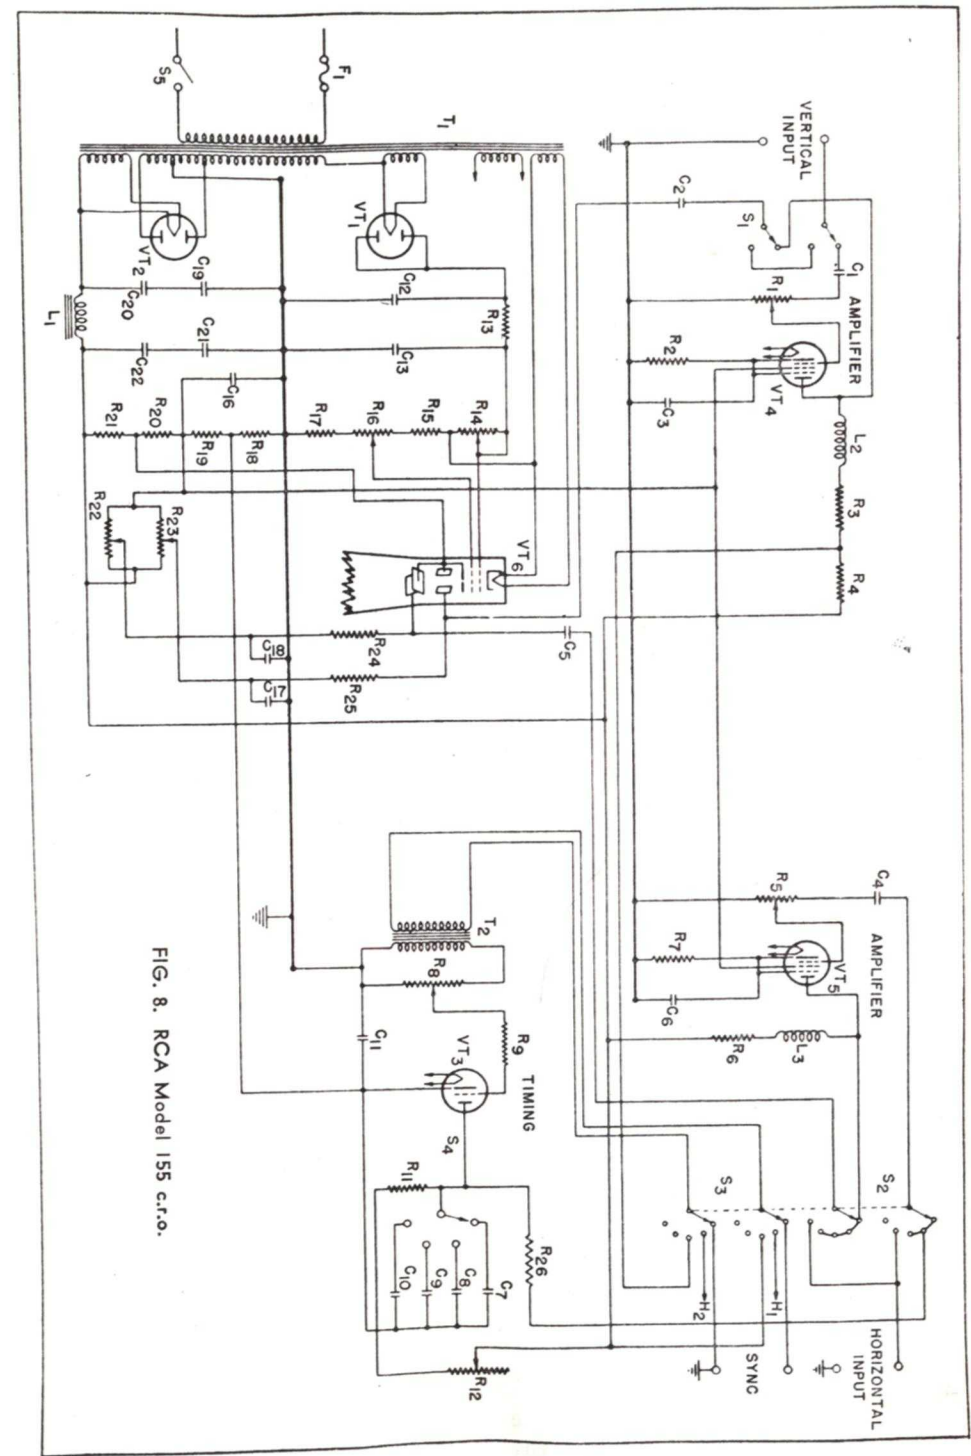

FIG. 8. RCA Model 155 c.r.o.
Fig. 8 is the wiring diagram and Fig. 9 shows the controls and general appearance of the RCA 155, chosen as an example of a typical service instrument. The instrument has in it a cathode ray tube, a high-voltage power supply, amplifiers for the horizontal
Power Supply. There are two complete power supplies in Fig. 8. The section using rectifier VT_2 is the low voltage supply. It is similar to the power pack in a large receiver, furnishing about 400 volts for the operation of the amplifiers and sweep circuit. As this is a rather high d.c. voltage, the filter condensers are in series, to increase the voltage rating. Thus, condensers C_{19} and C_{20} together give half the capacity and twice the voltage rating of a single condenser.
Sweep Generator. The sweep generator is marked "timing" in Fig. 8 and uses the gas discharge tube VT_3 and a selector switch S_4 , which connects the proper condenser into the circuit for the frequency range desired. The condensers C_7 to C_{10} cover the range 15 to 22,000 cycles in four overlapping ranges. The chosen condenser is charged through R_{11} and R_{12} , the latter being adjustable to give a "fine" frequency control.
Turn up the *HORIZONTAL GAIN* control (R_5 in Fig. 8) and the spot will turn into a faint horizontal line. Increase the intensity setting and the horizontal line will become brighter. When the spot begins to move, fewer electrons strike any given point on the screen in a given time, and brightness drops. It is safe to increase the number of electrons in the beam by adjusting the intensity control, since the spot does not stay in one position long enough to damage the screen. Adjust the *HORIZONTAL GAIN* control so that the line extends about two-thirds the distance across the face of the tube.
Step 8. Now rotate the *TIMING SYNC* control (R_8 in Fig. 8) to about mid position. We are now ready to ad-